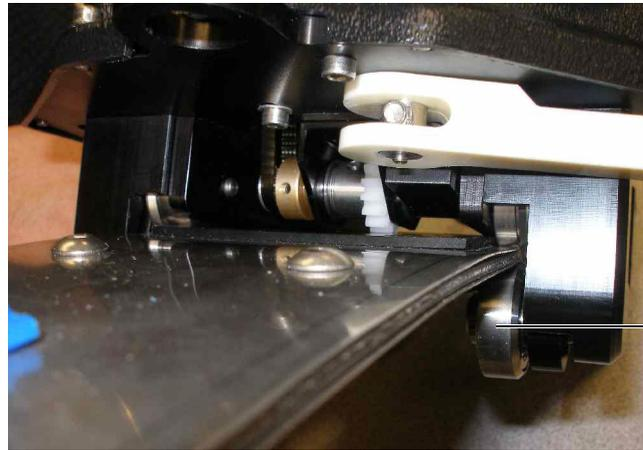

Figure 2-3 The flexible X-axis rail inserted between the encoder module's first set of wheels
6. Insert the flexible axis rail between the encoder-holder guide wheels (see Figure 2-3 on page 21).
If necessary, pull the two spring-loaded guide wheels downward, and then slide the rail past the second pair of guide wheels (see Figure 2-3 on page 21).